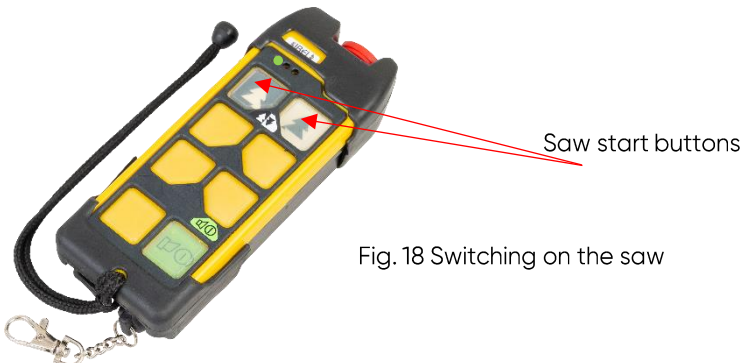

Fig. 18 Switching on the saw
- Press and hold any (depending on your convenience) saw start button, which will start the saw engine (Fig. 18)